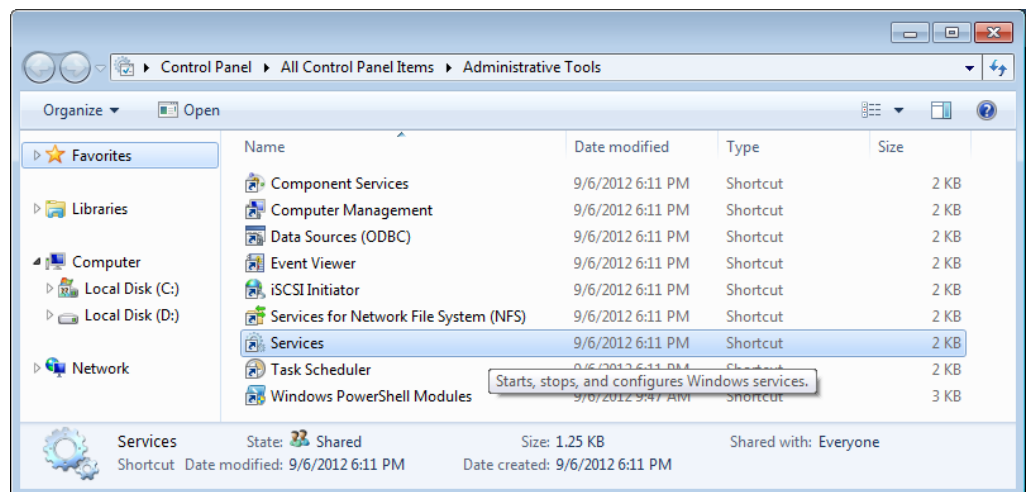

Figure 12: Services
- via the „ControlPanel-AdministrativeTools“ see ►Figure 12◄.